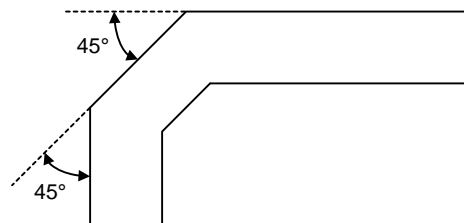

Figure 76. Trace Routing
- For high-speed signals, the number of corners and vias should be kept to a minimum. If a 90° bend is required, it is recommended to use two 45° bends instead. Refer to Figure 76.